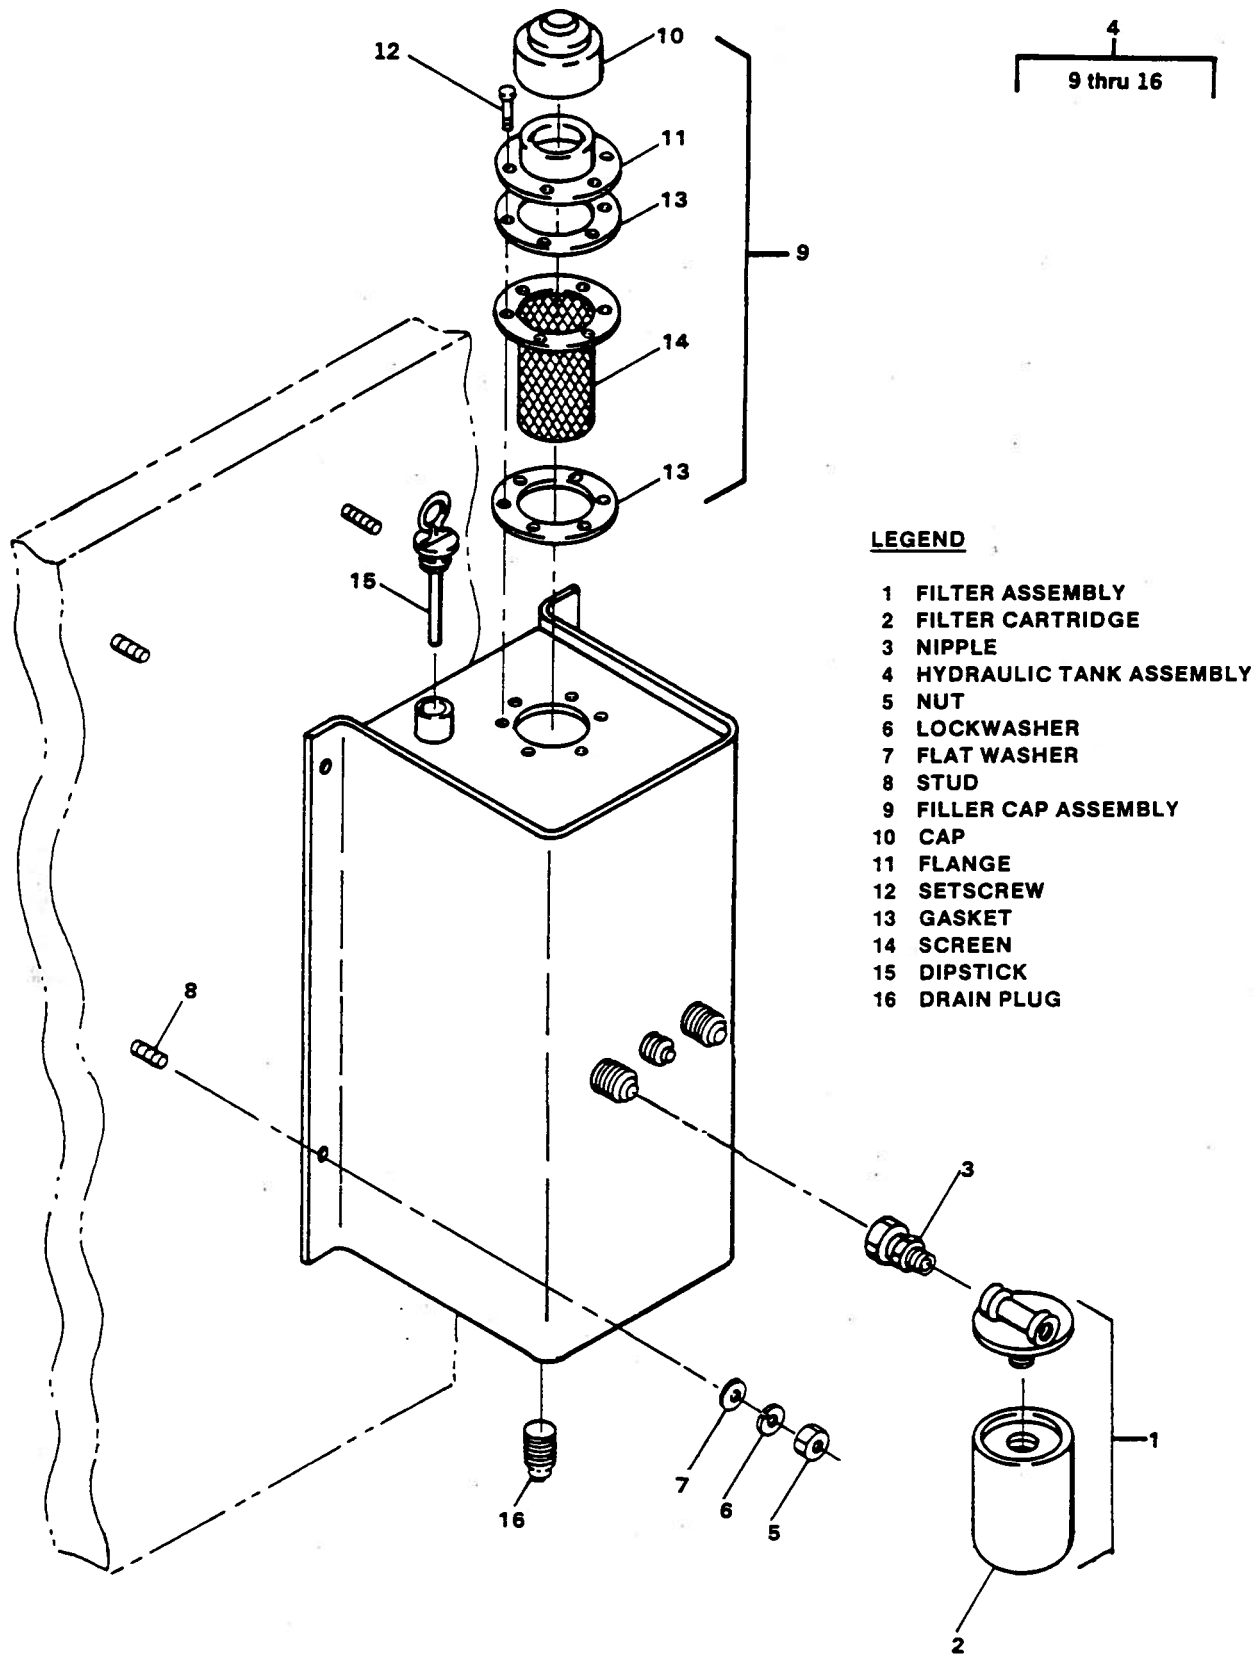

Figure 5-72. Hydraulic Tank Installation
5-114. DISASSEMBLY. (See figure 5-72.)
a. Remove drain plug (16, figure 5-72). Drain content into 10 gal (37.85 l) container.
c. Remove filter assembly (1) by disconnecting at nipple (3).
d. Remove nipple (3) from tank.
e. Remove filter cartridge (2) from filter assembly (1).
f. Remove four nuts (5), lockwashers (6), flat washers (7), and hydraulic tank assembly (4) from mounting studs (8).
g. Remove cap (10) from filler cap assembly (9).
h. Remove setscrew (12), flange (11), gaskets (13), and screen (14) from hydraulic tank assembly (4).
i. Remove dipstick (15).